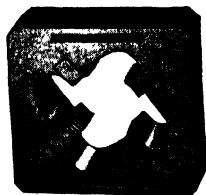
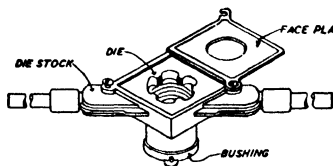

Fig. 8. Die for Threading Conduit
Fig. 9. Die Stock
**Die and Die-Stock.** These are of two general types, the solid stock and the adjustable or receding die stock. In the solid type we have a single block of steel, as shown in Fig. 8, which carries the thread-cutting teeth. These dies are held in a stock, Fig. 9, having two handles of suitable length. On the side opposite from the die there is an extension of the body of the stock, for holding the bushing or "guide," to align the stock and die with the axis of the conduit, so the thread will be cut straight. With this type of stock, Figs. 9 and 10, the die and guide must be changed for each conduit size. A stock with adjustable guides is made, which, by pushing a lever about